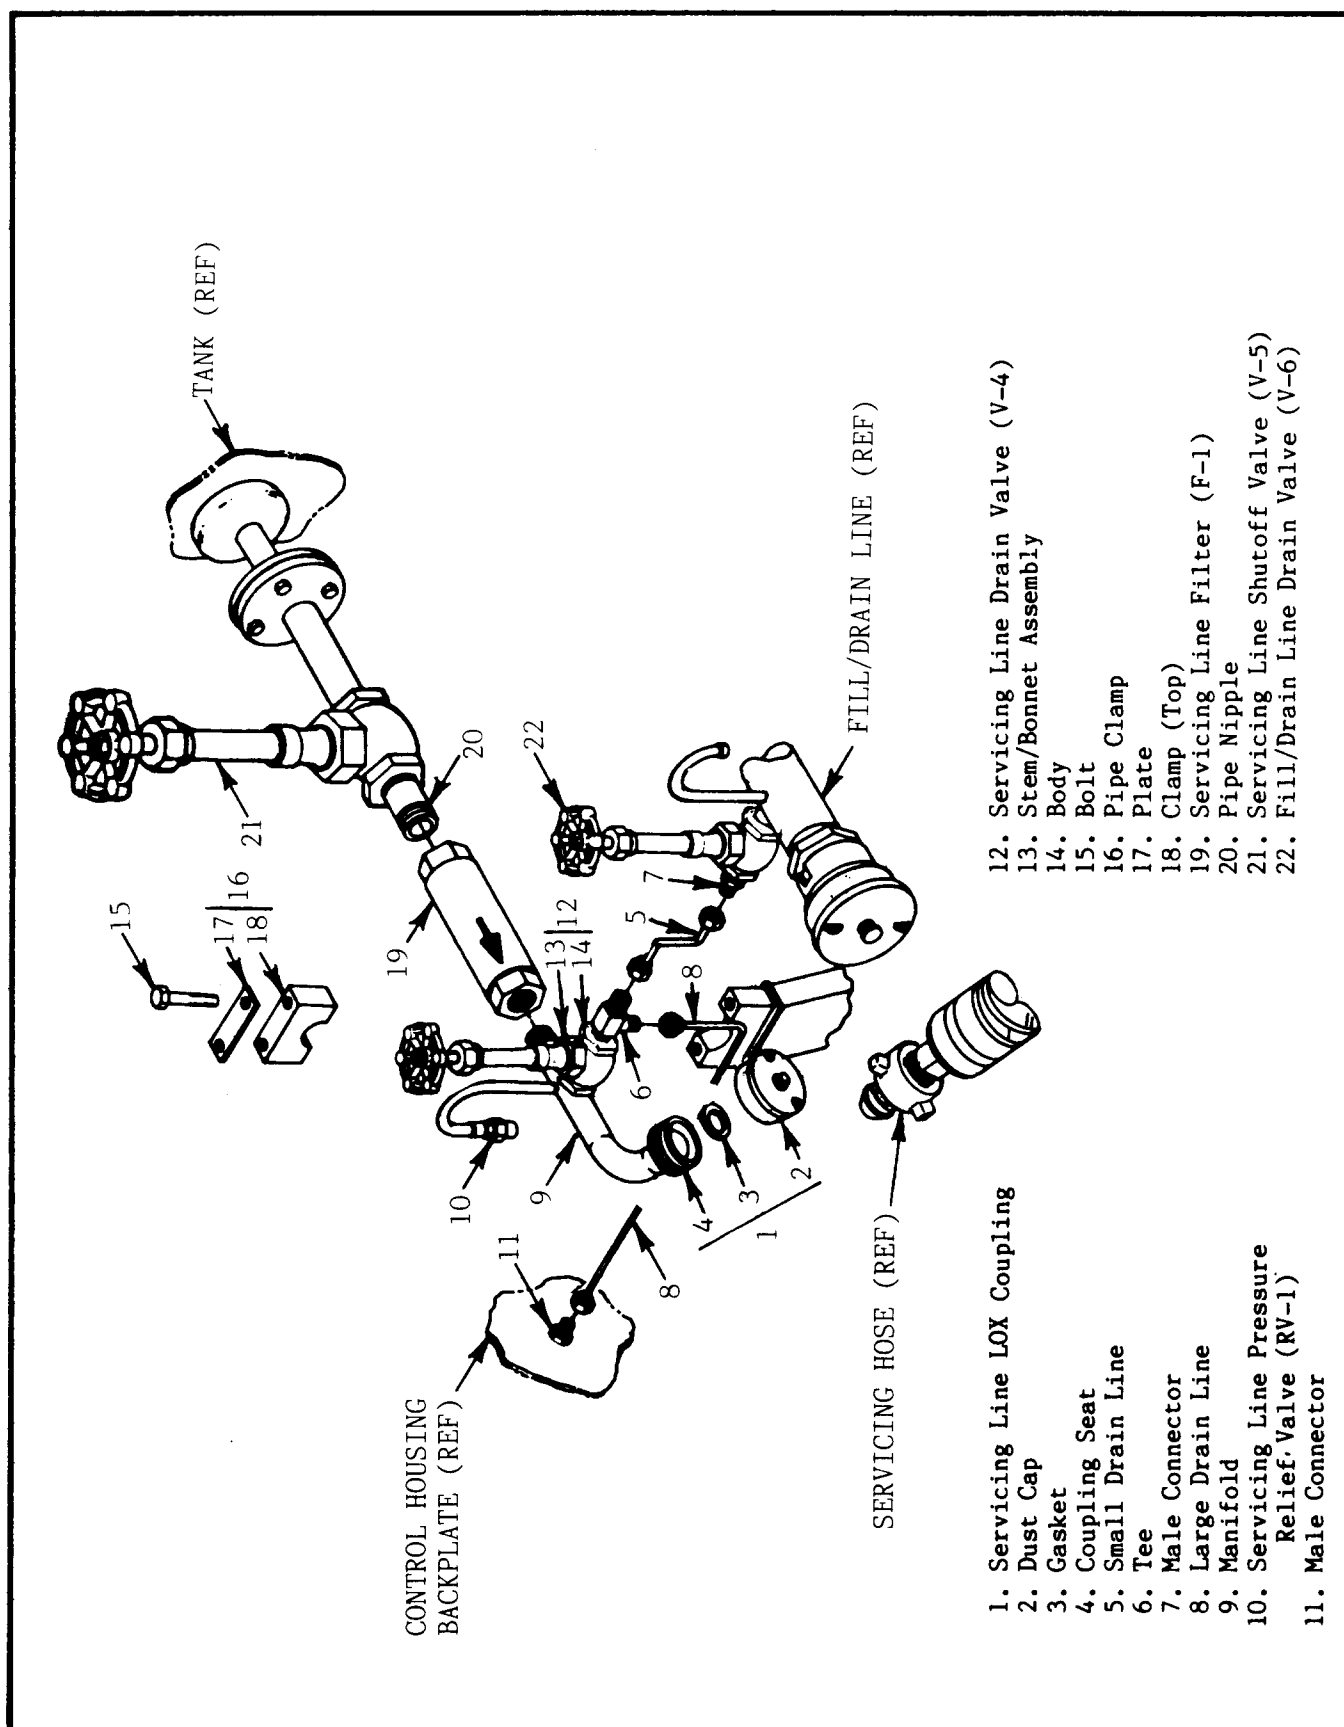

Figure 5-2. Servicing Line Component Removal and Replacement.
(See Figure 5-2). Removal and replacement of F-1 is as follows:
m. Reassemble the stem/bonnet assembly (13) into body (14) of the SL drain valve (12).
5-3.2 Servicing Line (SL) Drain Valve (V-4) (See Figure 5-2). Removal and replacement of V-4 is as follows:
- a. Remove the small drain line (5) and cover male connector (7).
- b. Disconnect the long drain line (8) from tee (6).
- c. Remove the drain line tee (6).
- d. Open V-4 (12) and remove the stem/bonnet assembly (13).
- e. Disassemble (12) as required (Refer to the Repair and Overhaul Instructions, T.O. 37C2-8-29-3).
- f. Remove body (14) from manifold (9).
- g. Put anti-seize tape on the male threads of manifold (9) to which body (14) is mounted and install (14).
i. Reassemble the stem/bonnet assembly (13) into body (14).
j. Put anti-seize tape on the male threads of tee (6) and install (6) into body (14).
k. Reinstall the small drain line (5) and connect long drain line (8).
5-3.3 Servicing Line (SL) Pressure Relief Valve (RV-1) (Figure 5-2). Removal and replacement of RV-1 is as follows:
a. Support manifold tubing and remove RV-1 (10) from manifold (9).
b. Put anti-seize tape on the male threads of the relief valve. Support manifold tubing and install a new relief valve RV-1 (10).
5-3.4 Servicing Line (SL) LOX Coupling (Figure 5-2). Removal and replacement of the SL LOX coupling is as follows:
b. Remove LOX coupling (1) from the manifold (9). If further disassembly is required remove dust cap (2) and gasket (3) from the coupling seat (4).
c. Put anti-seize tape on the male threads of manifold (9) and install LOX coupling (1).